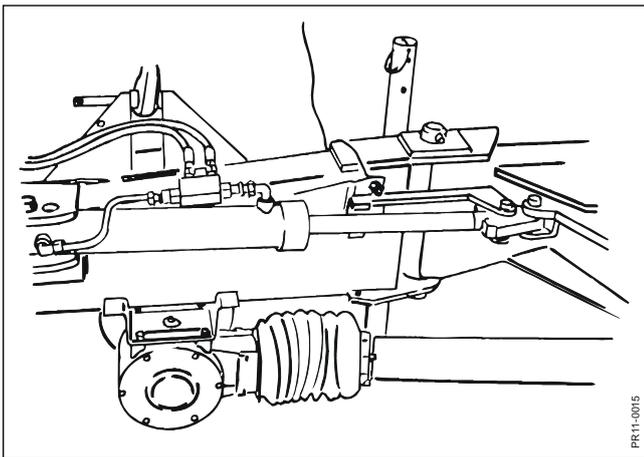

Fig. 2-15
- Fig. 2-15:** Connect the swivel cylinder to the double-acting hydraulic outlet of the tractor.